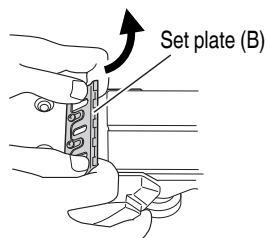

Fig. 20
- (2) As shown in Fig. 20, after removing the carbide blade, slide set plate (B) in the direction indicated by the arrow to disassemble set plate (B).